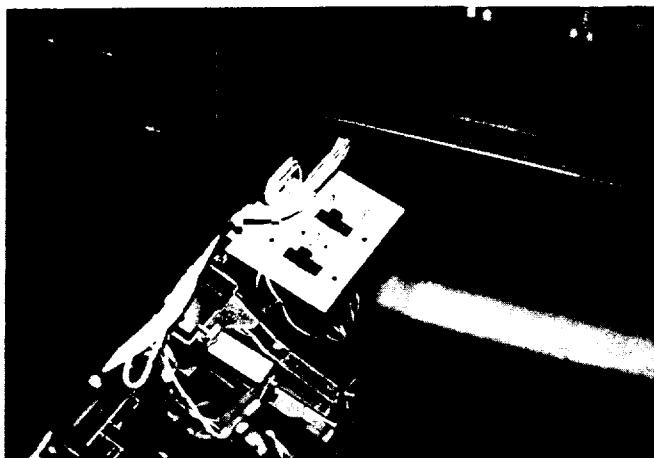

FIGURE 1-6 DOOR SWITCHES
| Figure 1-6 | Door Switches..... | 8 |
The Self Test Procedure is performed using the two(2) Switches located on the inside of the Coin Door, and the Self Test Button and the LED's on the Video PC Board. (See Figure 1-6).